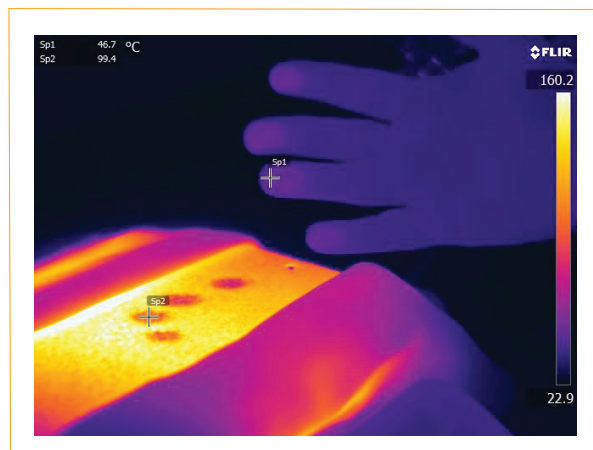

Figure 4—HiTIC-coated hotplate.
In the case of the thermal world, an infrared (IR) picture tells the full story. In the IR image provided in Figure 4, a hotplate is brought to a constant temperature of 392°F (200°C) and left for several hours to reach equilibrium. On top of the hotplate is a 160 mils thick aluminum panel coated with 80 mils of HiTIC A. In the portions of the figure shown in bright yellow, the layer of aerogel coating dropped the hotplate temperature by approximately 104°F (40°C) to achieve a surface temperature of 320°F (160°C). By conventional wisdom, this surface would still be unsafe to touch. Yet, as can be seen by the fingertips shown in the figure, after five seconds of constant contact time with the surface, the skin temperature is only slightly elevated and far from the 136°F (58°C) burn threshold.